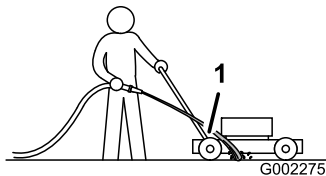

Figure 20
3. Hold the running garden hose at handle level and direct the water to flow on the ground just in front of the right rear wheel (Figure 20).